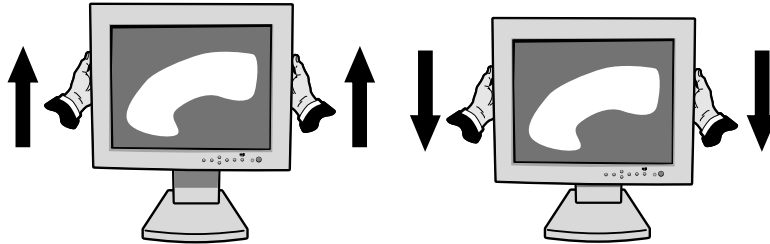

Figure RL.1
To raise or lower screen, place hands on each side of the monitor and lift or lower to the desired height (Figure RL.1).
To raise the screen, place hands on each side of the monitor and lift up to the highest position (Figure RL.1).
2. Place hands on each side of the monitor and lift up to the highest position (Figure RL.1).